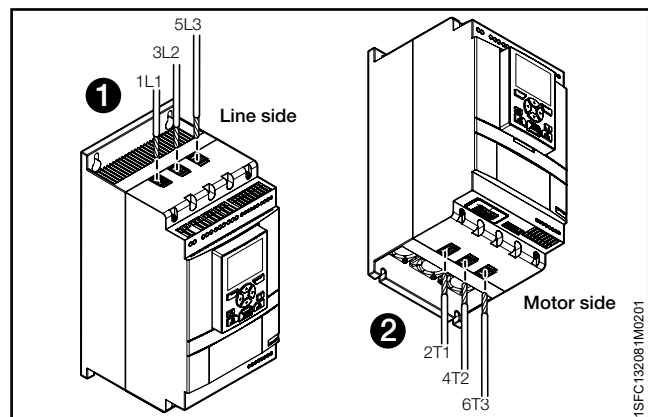
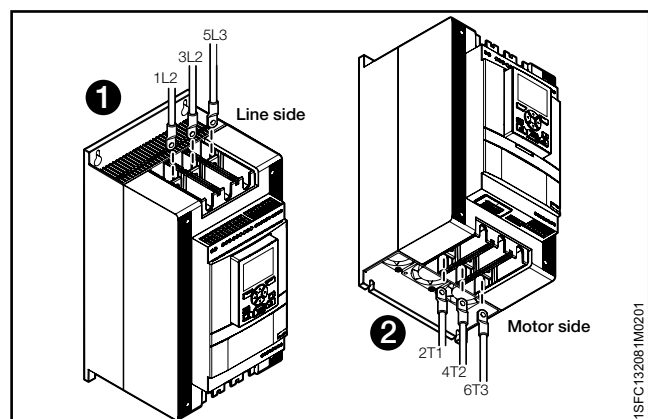

Figure 5.2
Figure 5.3
Use wire connection for PSTX30...105 see **Figure 5.2**.
Terminal connection for PSTX142...1250 see **Figure 5.3**.
- Connect the line side to terminals 1L1, 3L2, 5L3, see **1** in **Figure 5.2** and **Figure 5.3**.
- Connect the motor to terminals 2T1, 4T2, 6T3 on the motor side, see **2** in **Figure 5.2** and **Figure 5.3**.